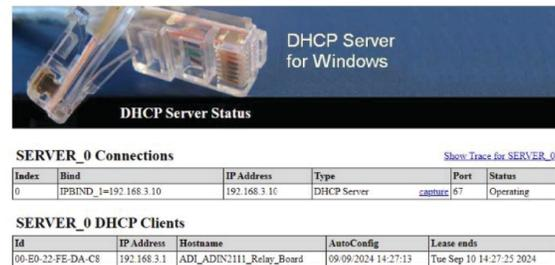

Figure 11. DHCP Server Status
7. Right-click the tray icon in taskbar and click **Open Status**, the **DHCP Server Status** window appears, as shown in Figure 11.